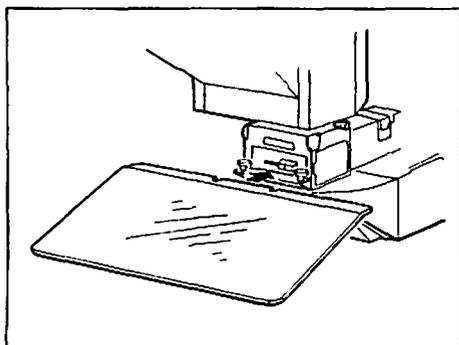

Fig. 34
21 Mounting the Breath Shield (Fig. 34)
1. Loosen the two clamping screws on the top surface of the breath shield mounting bracket (Fig. 34) and insert the breath shield underneath the screws. Tighten the screws securely.